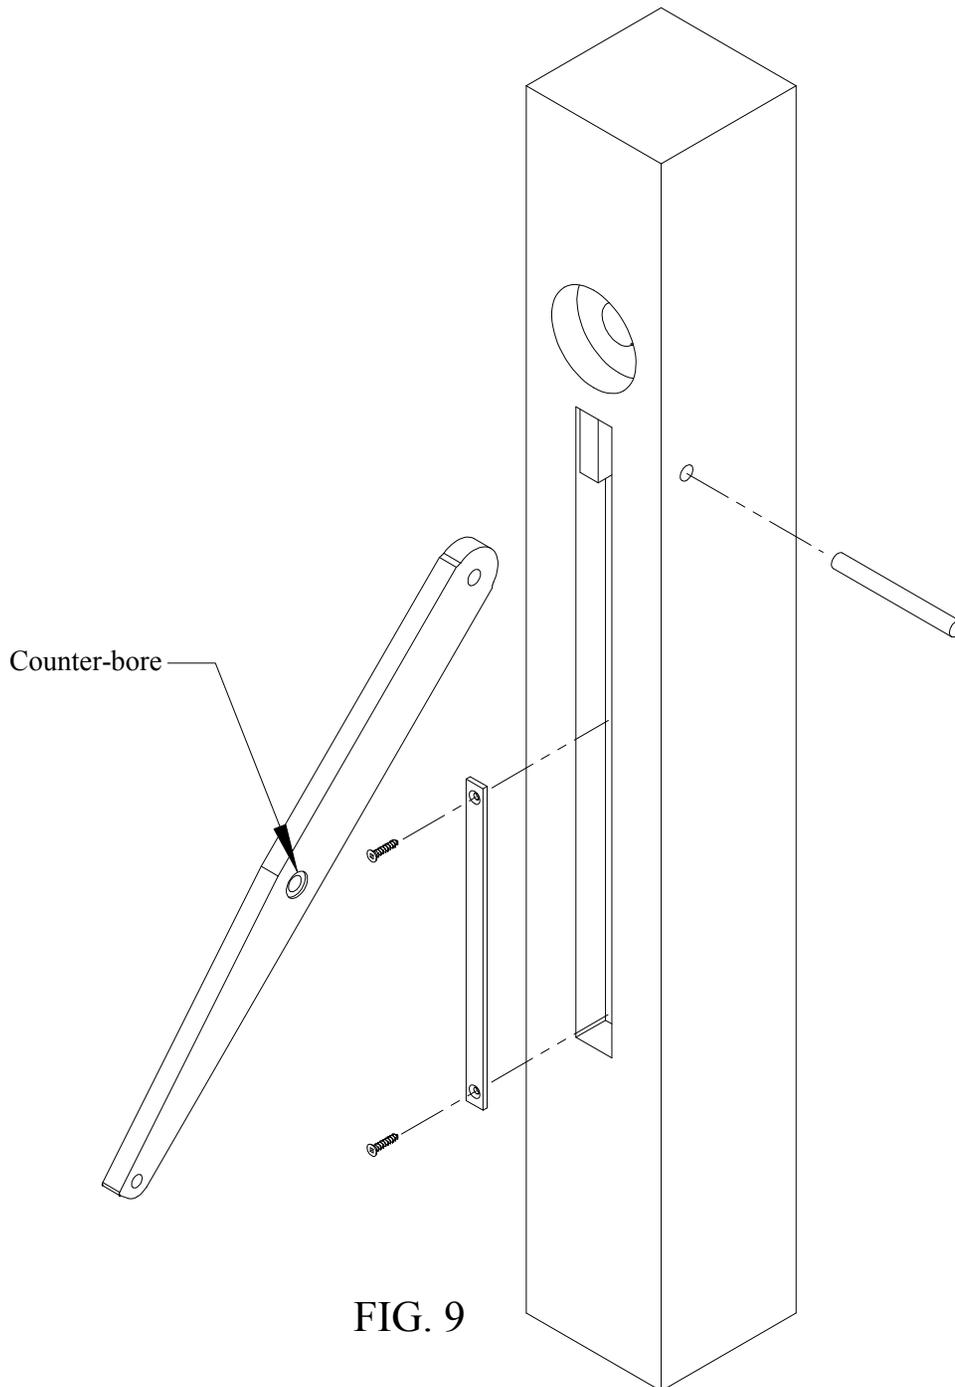

**FIG. 8**
Step 14: Place the jaw link into the right mortise oriented as shown in Fig. 8. The jaw link has the spherical bearing. Use a 1/4" or 5/16" diameter wood dowel rod inserted from the opposite side of the pivot pin to help orient the spherical bearing. Install the pivot pin into the hole and tap until it is through the spherical bearing. Use care when tapping the pivot pin through the bearing to make sure you don't knock it out of its bore. Make sure the pin is inserted at least 1" past the spherical bearing. It may be necessary to use a 1/4" diameter pin punch or rod to fully insert the pivot pin. When you are totally finished you can plug the holes if you wish. If you ever need to remove the pin you can drill the plugs out and remove.